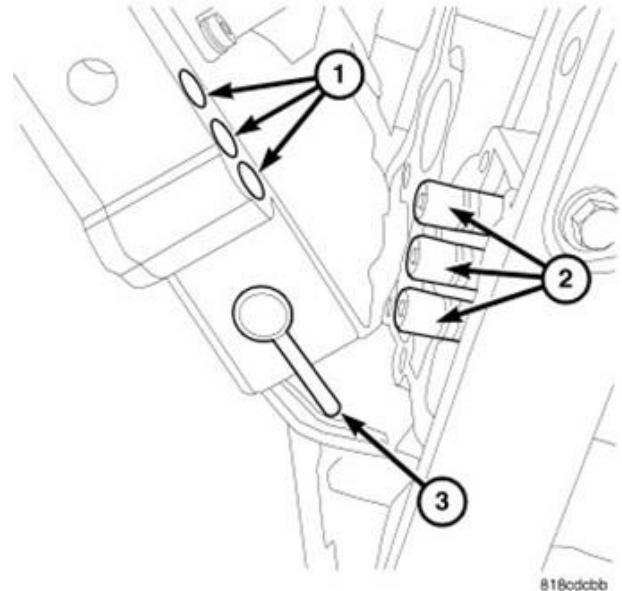

Figure 15 – Valve Body
NOTE: It may be necessary to use needle nose pliers or similar tool to push the oil transfer tubes (2) toward the transmission releasing them from the valve body (1) during valve body removal (Figure 15).
NOTE: For reassembly, pay attention to alignment of manual valve pin (3) in the range selector rooster comb (Figure 15).
- 25. Carefully remove the valve body (1) being careful to not damage the valve body gasket on the back side of the valve body (Figure 15).